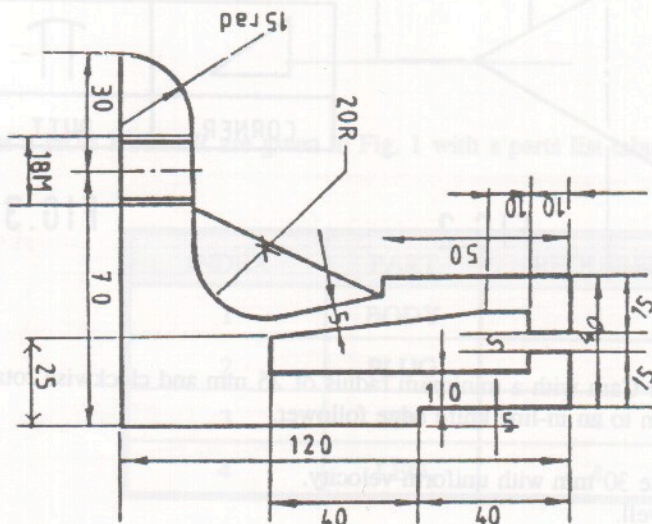

FIG. 5
4. (a) Fig. 5 shows a sectional elevation through a nylon bracket. It is incorrectly dimensioned. Assume all numerical values to be correct.